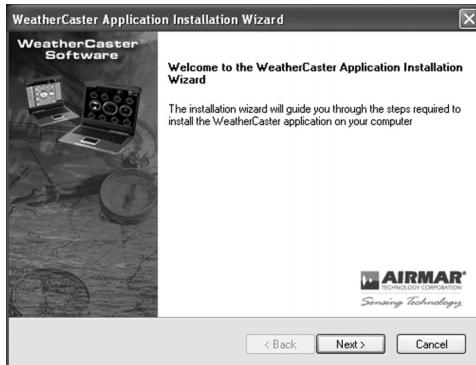

Figure 3. WeatherCaster Installation Wizard window
4. The WeatherCaster Installation Wizard window will appear (see Figure 3).